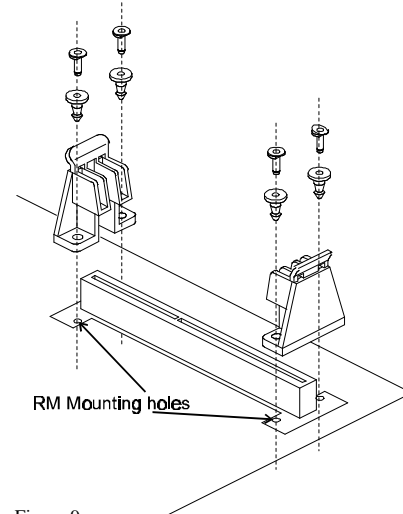

Figure 9
(Refer to Figure 9)
2. Insert two Retention Mechanism (RM) face to face on opposite side of the Slot 1. (Refer to Figure 9)
3. Insert four Post Pin through the RM to fix it to the mainboard. (Refer to Figure 9)
4. Insert four Lock Pin through the Post Pin to lock RM to the mainboard. (Refer to Figure 9)